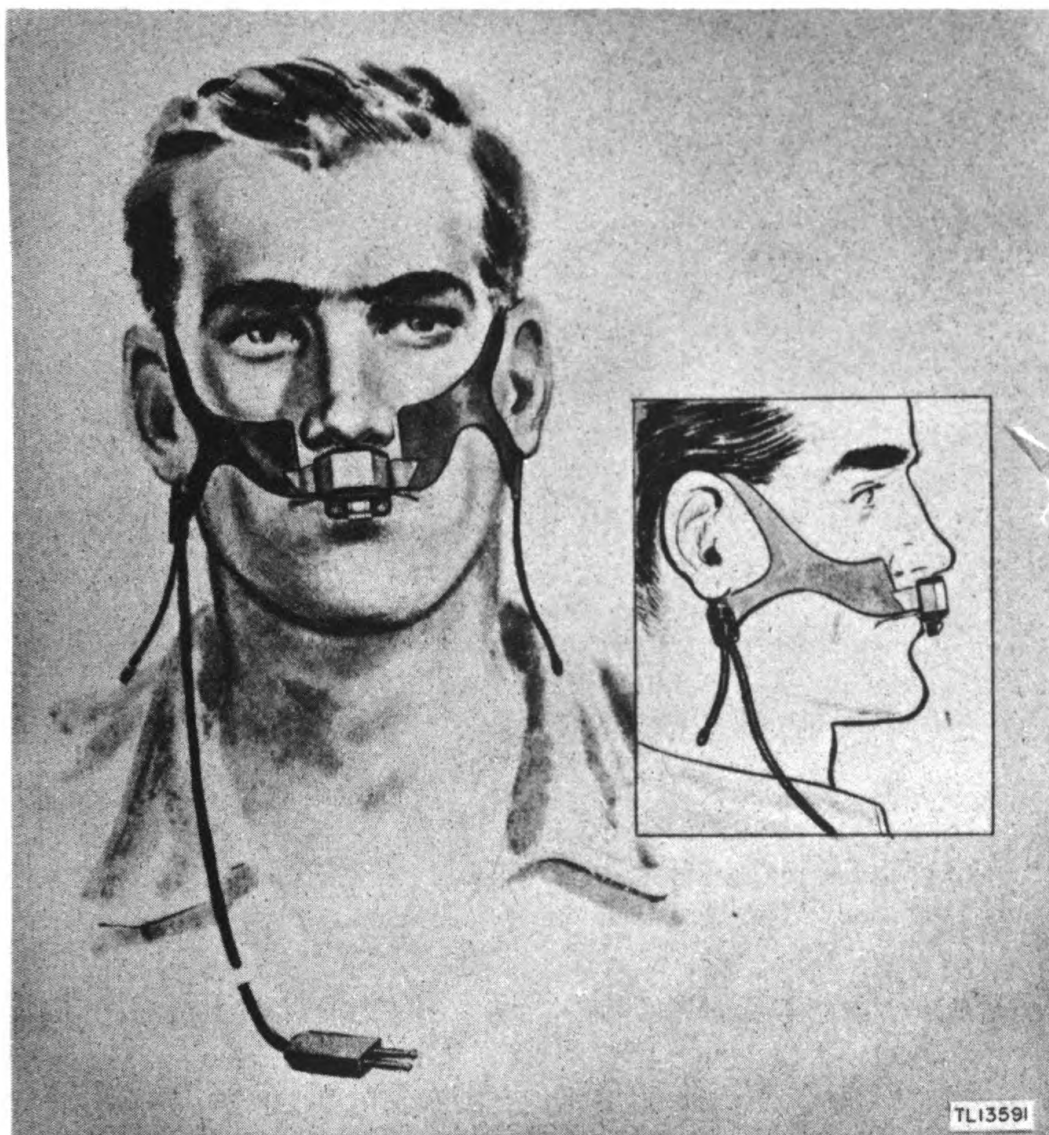

Figure 27. Microphone T-45, as worn by operator.
c. Microphone T-45 (fig. 27) when used with Radio Set AN/TRC-7, is worn in conjunction with Headset HS-30-(). The correct procedure for assembling and wearing Microphone T-45 and Cord CD-318-A (fig. 28) follows: